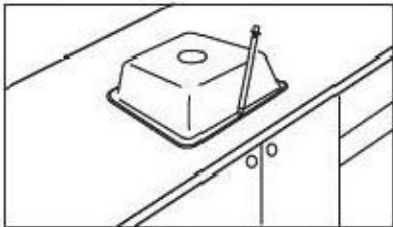

Figure 1
4. Place sink upside down on the countertop in desired position and completely trace the outside sink rim using a soft lead pencil. (FIGURE 1)